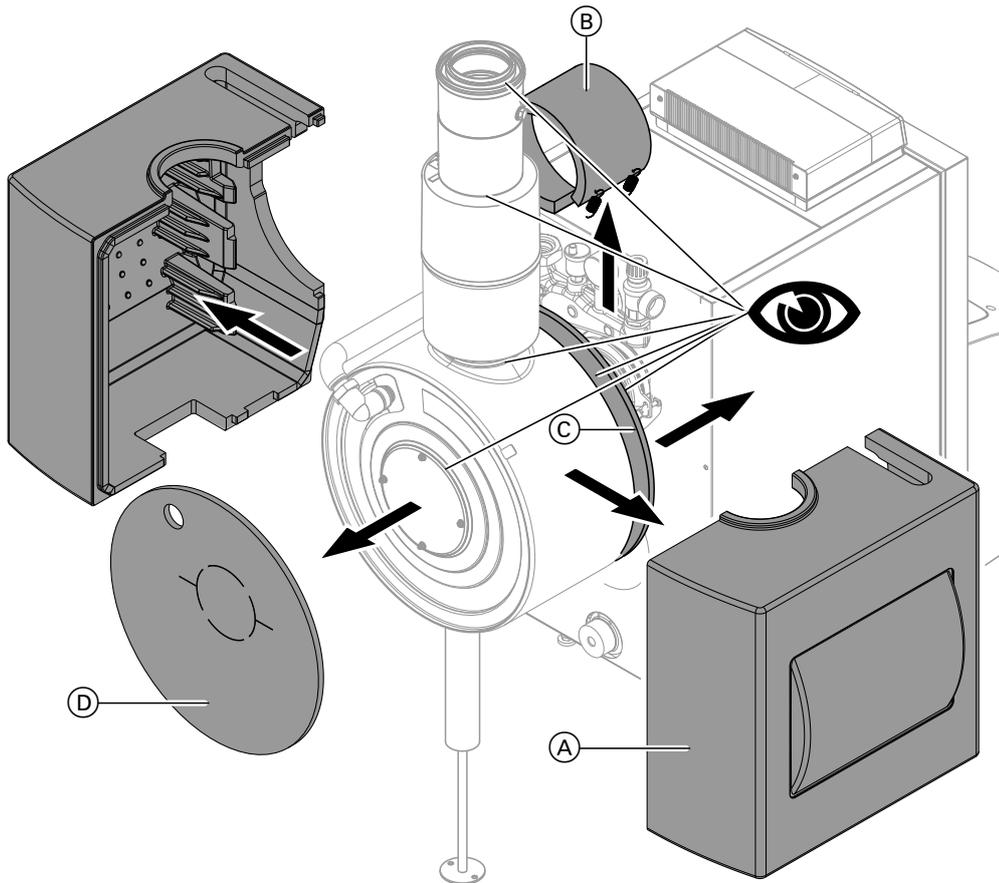

Fig. 8
5. Refit the thermal insulation of the heat exchanger in reverse order: See Fig. 8 on page 15.